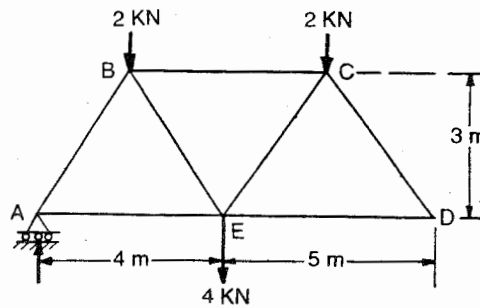

Fig. 14.29
10. Determine the magnitude and nature of forces in the members of the truss shown in figure. 14.29 (AMIE)
13. Find the forces in the members AB , AC , CD and BD of the truss shown in the figure 14.29 by the method of sections.